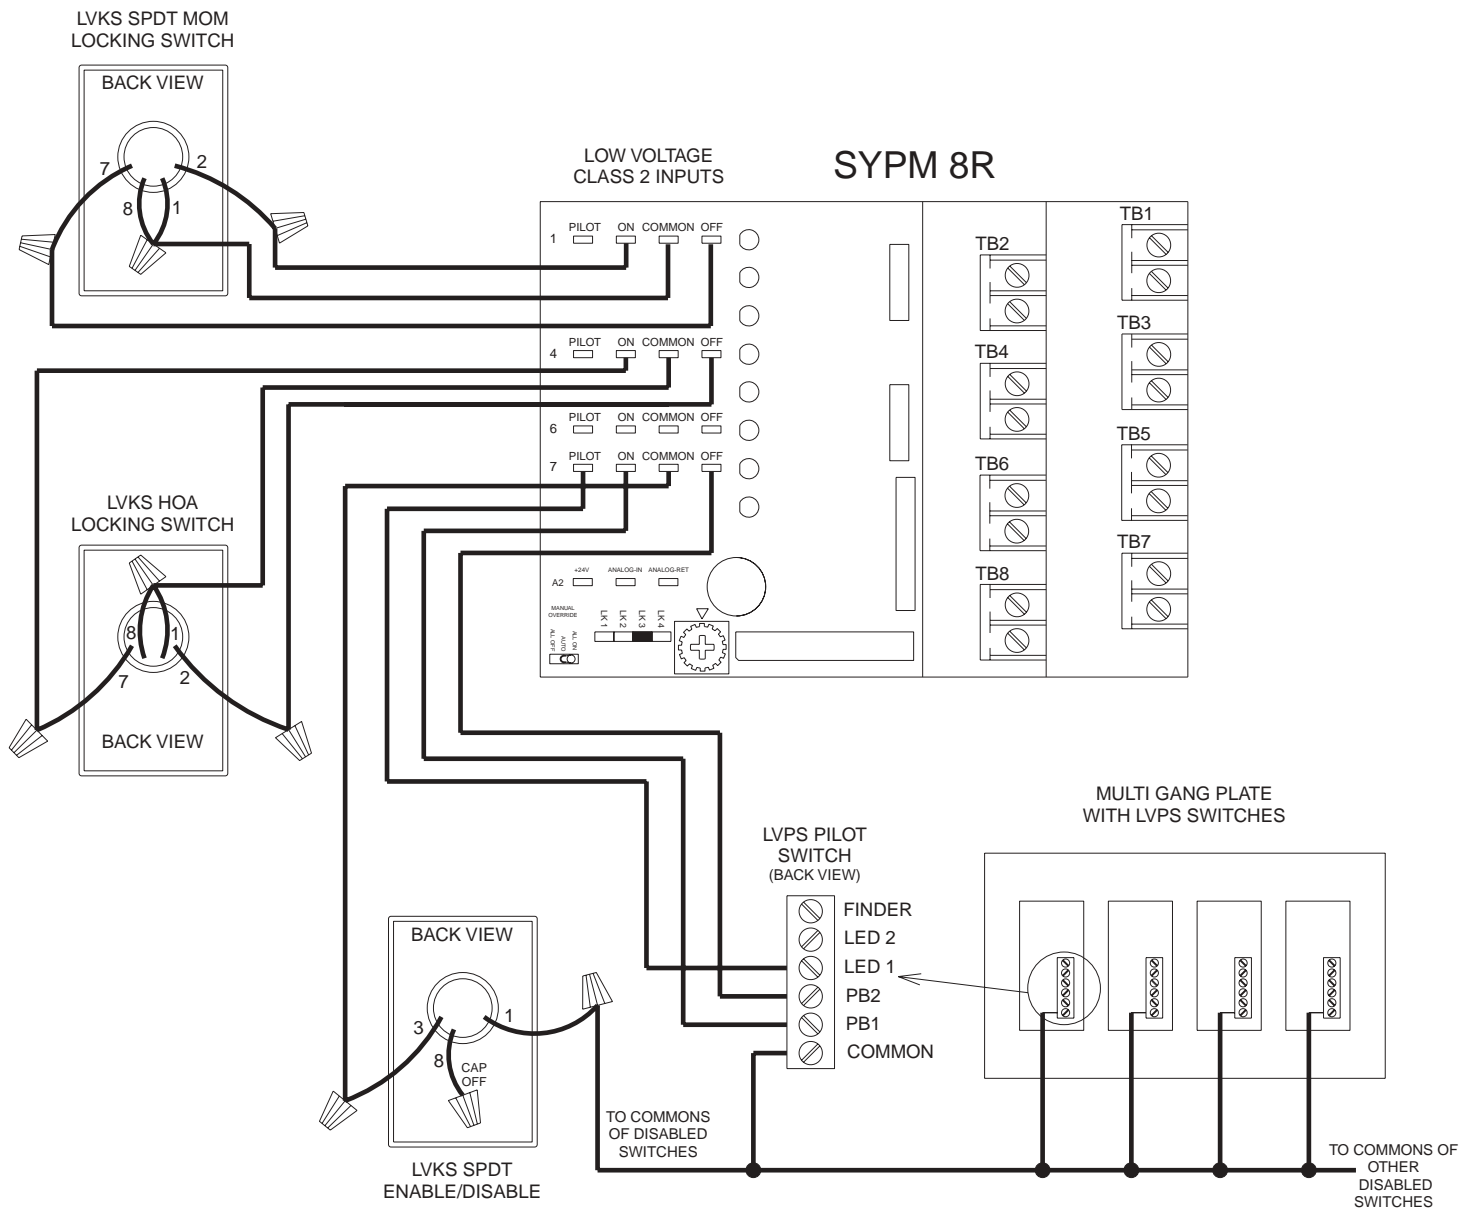

Figure 1 - LVKS Wiring Details
2. The keyswitch contains pigtails for device connections. See *Figure 1* for several example applications and their corresponding connections.